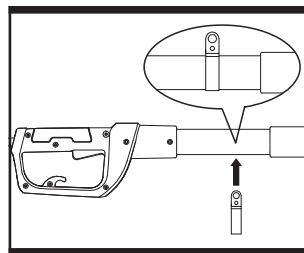

Fig. 8a
- c). Fit and adjust the length of the harness for easy operation. (See Fig.8a & 8b, 8c)